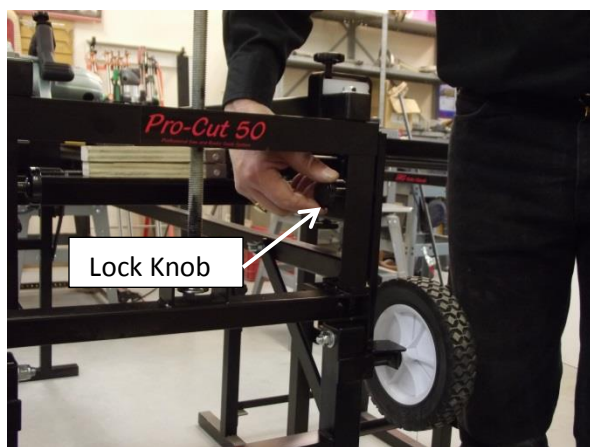
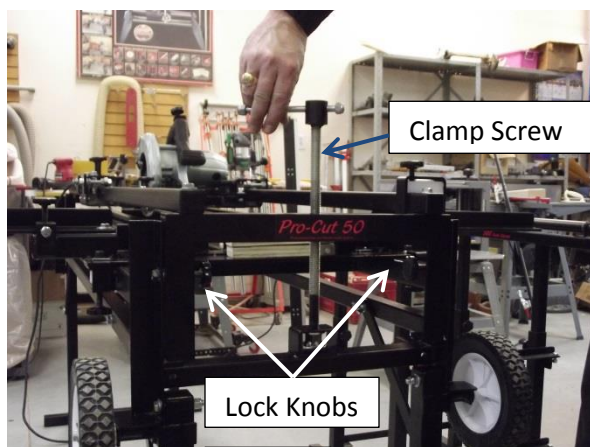

Fig 32
Fig 34
The Pro Cut 50 is pre-set to cut material up to $\frac{3}{4}$ " without adjustment. For thicker material, the Pro-Cut 50 has adjustable height up to $3\frac{1}{2}$ ". To raise the height of the saw carriage, simply unlock the (4) lock knobs (Fig 32, 33), located on either end of the Pro-Cut 50, and screw the clamp screw up (Fig 34) on both ends of the machine until you reach the desired height. To save time and to insure height adjustment accuracy you will use spacer blocks. The Pro-Cut 50 is pre-set for $\frac{3}{4}$ " material but if you wanted to set the height, for example, for $1\frac{1}{2}$ " material you will need to raise the carriage $\frac{3}{4}$ ". Place $\frac{3}{4}$ " spacer blocks under each of the 4 corners of the carriage as shown in Fig 35 and Fig 36. You can easily make spacer blocks that you will use over and over again. Spacer blocks will be whatever total height you desire less $\frac{3}{4}$ ". If you want to set the height to 2", you would use $1\frac{1}{4}$ " spacer blocks. ($2" - \frac{3}{4}" = 1\frac{1}{4}"$). With the spacer blocks in place, screw down the clamp screws on both ends of the Pro-Cut 50 to lock the height adjustment in place against the spacer blocks. Then lock the 4 lock knobs located on either end of the machine.